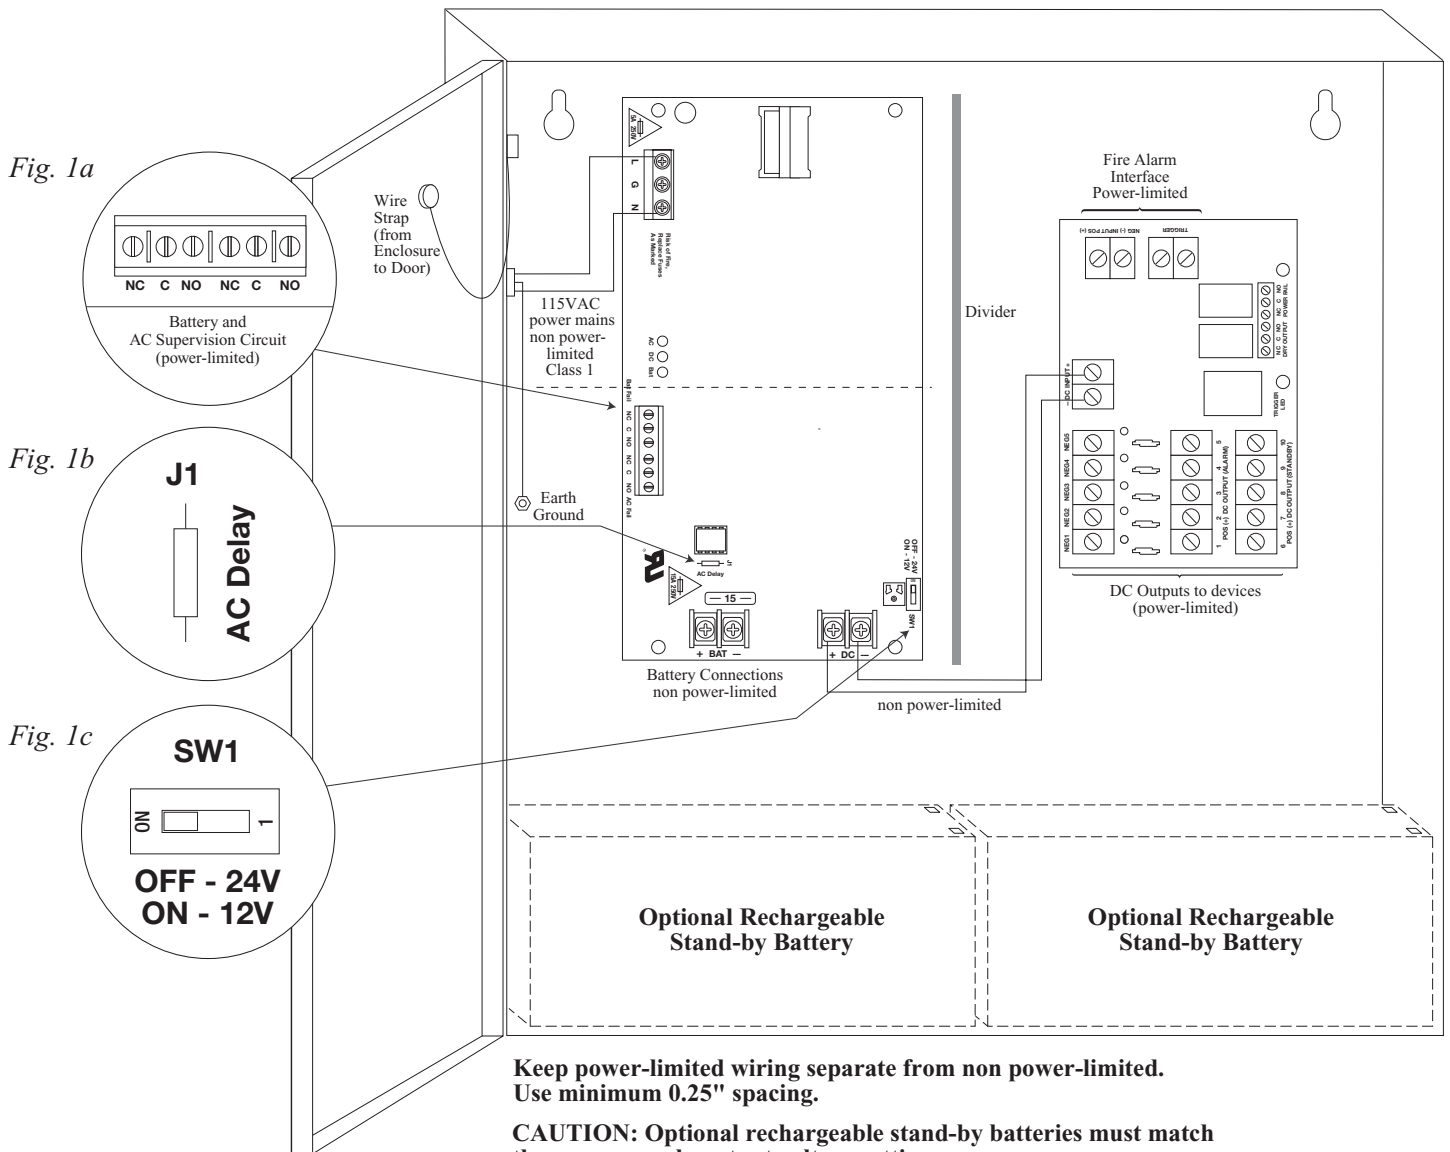
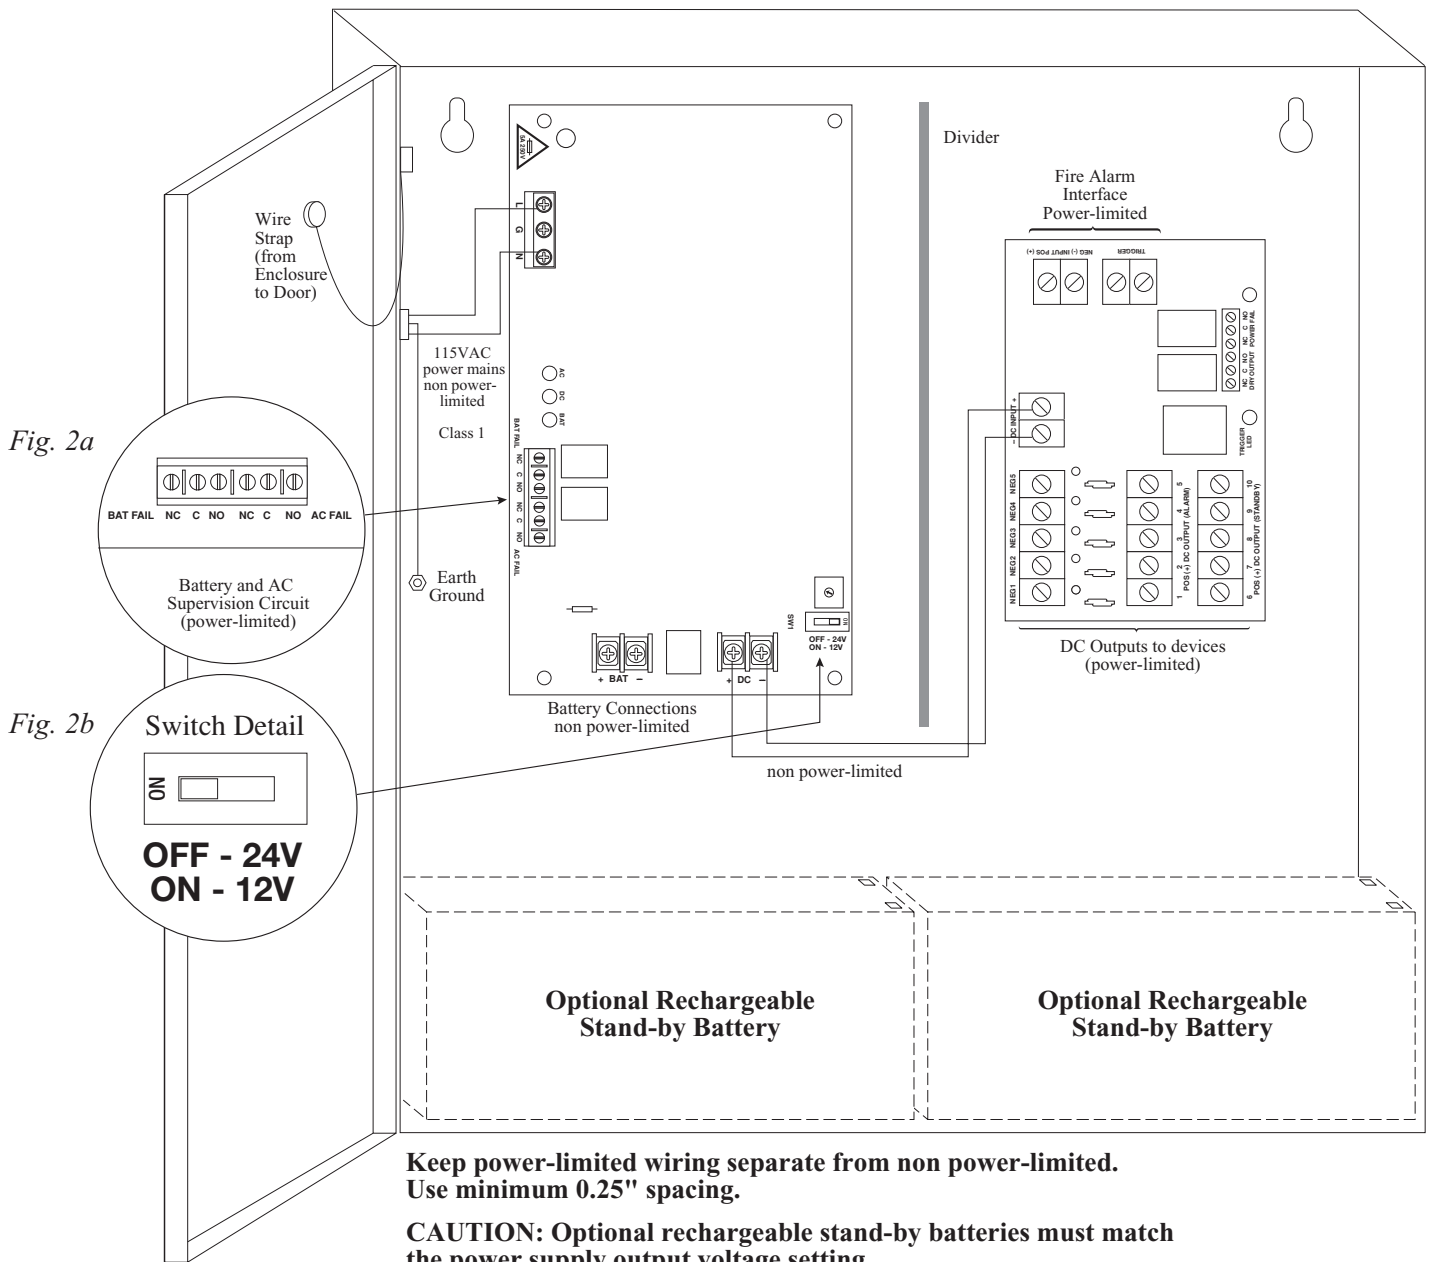

Fig. 2 - AL600ULM
Fig. 3 - AL1012ULM
3. Secure green lead to earth ground. Connect AC power (115VAC, 60Hz) to the terminals marked [L, G, N] on power supply board (*Fig. 1, pg. 5; Fig. 2, pg. 6; Fig. 3, pg. 7; Fig. 4, pg. 8*).
5. Connect Fail-Secure type locking hardware (e.g. door strikes and electronic dead bolts) positive leads to terminals marked [1 through 5 POS. (+) DC OUTPUT (ALARM)] on MOM5 board and the negative leads to terminals marked [NEG 1 through NEG 5] on MOM5 board (*Fig. 1, pg. 5; Fig. 2, pg. 6; Fig. 3, pg. 7; Fig. 4, pg. 8*).
6. Connect Fail-Safe type locking hardware (e.g. mag locks, door strikes and door holders) positive leads to terminals marked [6 through 10 POS. (+) DC OUTPUT (STAND-BY)] on MOM5 board and negative leads to terminals marked [NEG 1 through NEG 5] on MOM5 board (*Fig. 1, pg. 5; Fig. 2, pg. 6; Fig. 3, pg. 7; Fig. 4, pg. 8*).
7. To trigger the unit from a FACP connect signaling circuit of FACP to terminals marked [- INPUT +] on MOM5 board (*Fig. 1, pg. 5; Fig. 2, pg. 6; Fig. 3, pg. 7; Fig. 4, pg. 8*). Polarity is shown in alarm condition. For latching fire alarm interface (*Fig. 7, pg. 11; Figs. 8 & 9, pg. 12*).
9. Connect auxiliary devices triggered by the unit to the terminals marked [DRY OUTPUT NO & C] on MOM5 board for normally open output or terminals marked [DRY OUTPUT NC & C] on MOM5 board for normally closed output (*Fig. 1, pg. 5; Fig. 2, pg. 6; Fig. 3, pg. 7; Fig. 4, pg. 8*).
10. For Access Control applications batteries are optional. When batteries are not used, a loss of AC will result in the loss of output voltage. Batteries must be lead acid or gel type if used. Connect one (1) 12VDC battery to terminals marked [+ BAT -] on power supply board for 12VDC operation (*Fig. 1, pg. 5; Fig. 2, pg. 6; Fig. 3, pg. 7; Fig. 4, pg. 8*). Use two (2) 12VDC batteries connected in series for 24VDC operation. (Battery leads included).